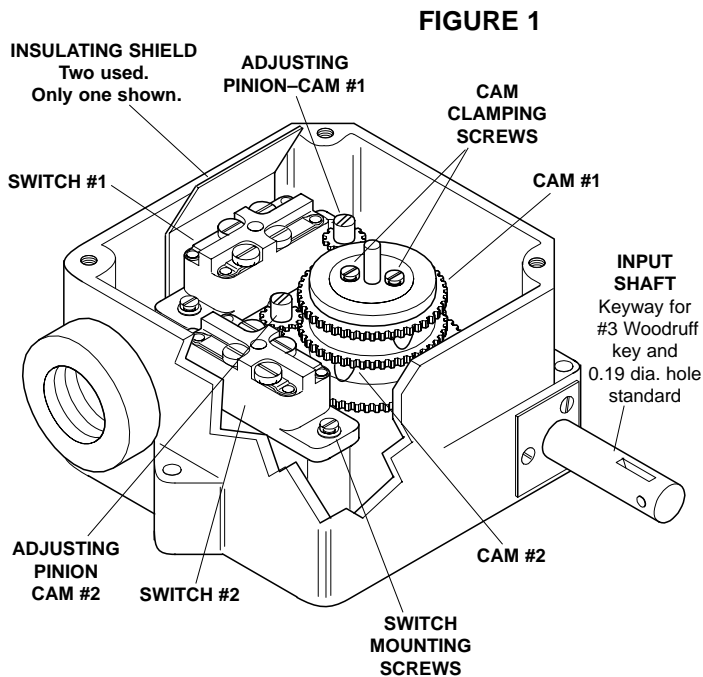

FIGURE 1
The Series 15 rotary limit switch is designed to coordinate reversing operations with the number of revolutions of a motor shaft or driven equipment. Typical applications include limiting travel of machinery, opening and closing of doors and windows, operating valves, and various sequencing operations. Primary internal components are shown in Figure 1 and are the same for all forms.
3. Loosen the two cam clamping screws on top of the cam assembly one-half turn each (See Figure 1).